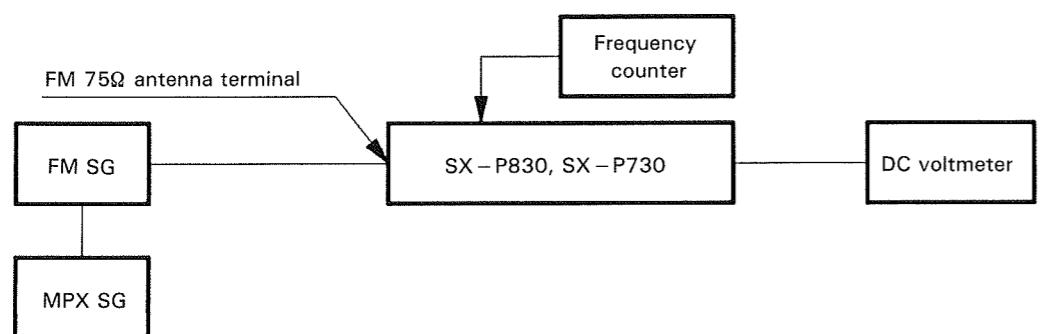

Fig. 7-1 FM Adjustment Connection Diagram
- Connect the wiring as shown in Fig. 7-1.